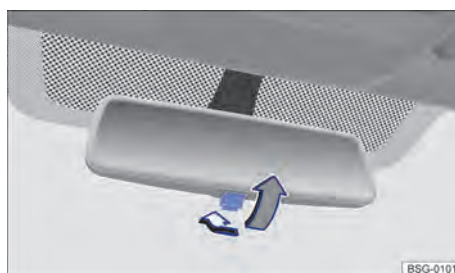

Fig. 90 On the windscreen: manual anti-dazzle interior mirror.
- Pull the lever back to select the anti-dazzle function → Fig. 90.